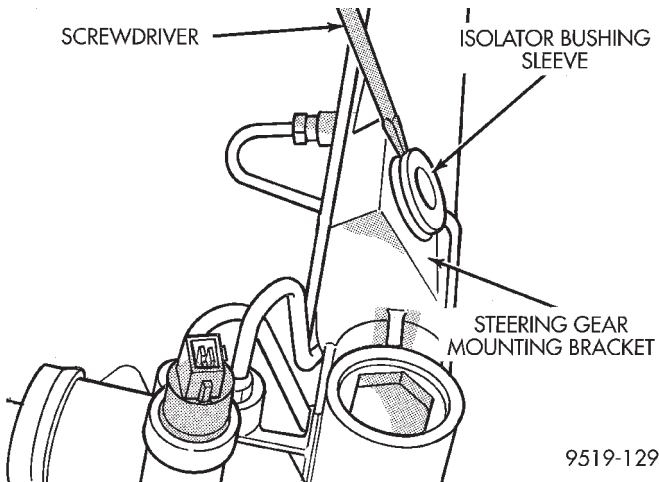

Fig. 24 Mounting Bolt Isolator Sleeve Removal
The steering gear mounting bolt isolators (Fig. 24) are a serviceable component of the steering gear assembly. Both isolator bushing are serviced using the same procedure listed below but only the rear mounting bushing is shown.
(1) Using a screwdriver, pry the sleeve out of the mounting bolt isolator (Fig. 24).
(2) Pry the mounting bolt isolator bushing from the steering gear mounting bracket.